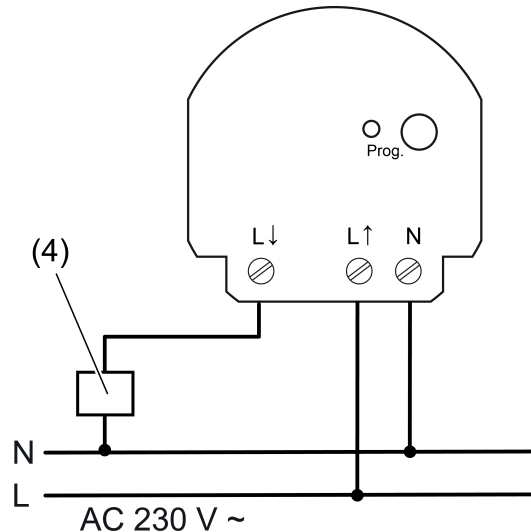

Figure 2: Connection example, energy sensor
(4) Monitored consumer
- Connect energy sensor as shown in the connection example (Figure 2).